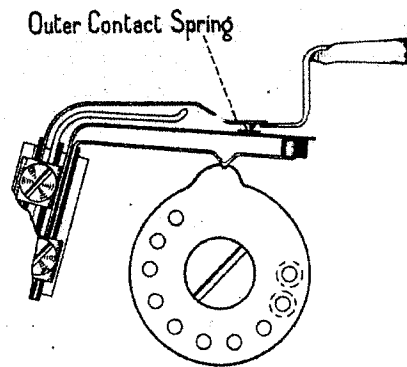

FIG. 29. CHECKING CONTACT
19. When the control cam is in the normal position, the contact pressure of the auxiliary springs should be 12 gm. minimum to 15 gm. maximum. The point of application of the gauge is shown in Fig.29.